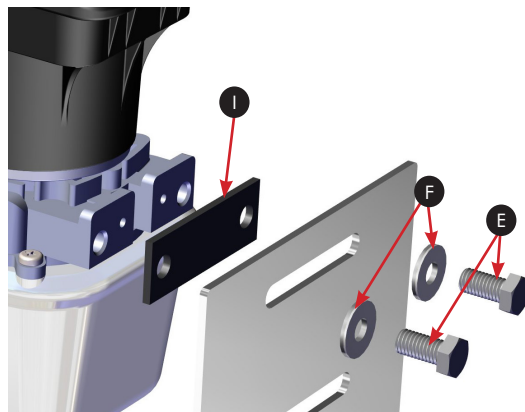

Figure 5
NOTE: Be sure to allow enough clearance surrounding the HPU to install the (2) 3/8" x 3/4" bolts **E** through the mounting bracket and into the HPU. **FIG. 5**
6. Once the bracket is securely fastened, use a 9/16" wrench to attach the HPU to its bracket using the (2) 3/8" x 3/4" bolts **E**, (2) 3/8" neo-bond washers **F**, and (1) rubber pump gasket **I**. **FIG. 5**
9. Install the (2) ring terminal connectors **J** using wire strippers and wire terminal crimpers.
10. Heat the (2) ring terminal connectors **J** with a heat gun until their respective jackets shrink completely and adhere to the wires.